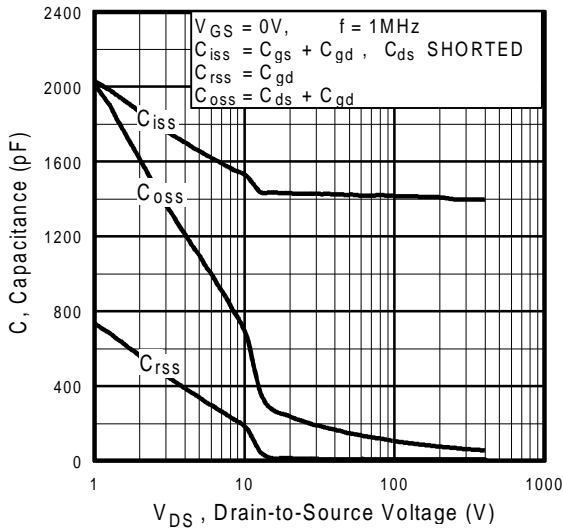

Fig 5. Typical Capacitance Vs. Drain-to-Source Voltage
| C_{riss} | Reverse Transfer Capacitance | — | 8.1 | — | | $f = 1.0\text{MHz}$, See Fig. 5⑥ |